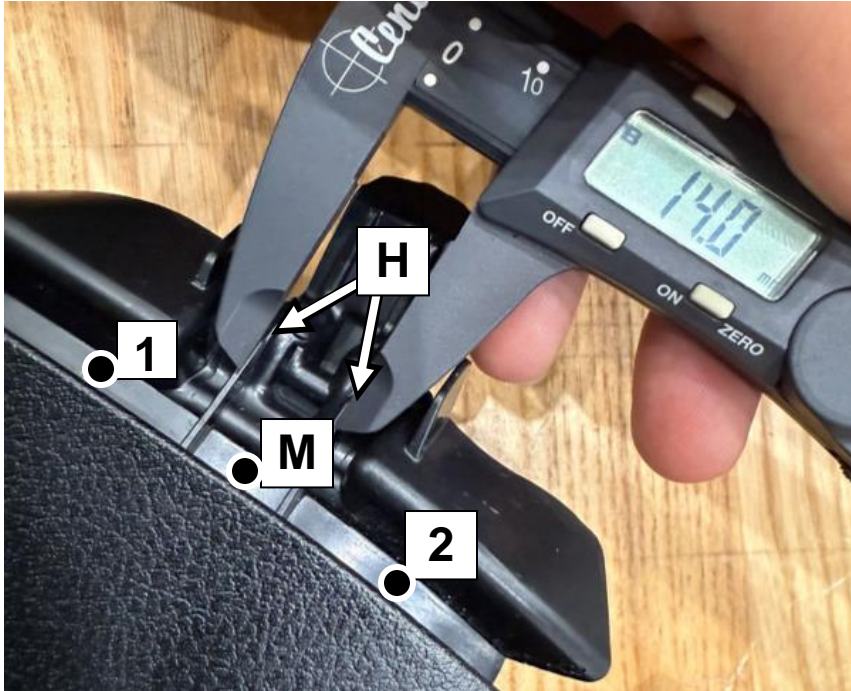

Figure 9 (Measure and mark areas to cut)
- On the front side of the C-pillar trim (interior facing), measure between the molded material spines (**Figure 9, H**) and mark the center point (**Figure 9, M**).